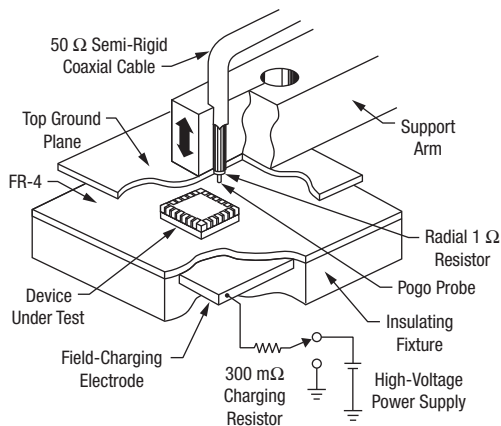

Figure 2. Field Induced CDM Simulator.
Three samples are submitted to CDM test for each voltage level. The device's potential is raised by applying a test voltage to the field charge electrode, see Figure 2 (Field Induced CDM Simulator). Five positive and negative discharges are applied to each pin, allowing enough time between discharges for the device to reach the full test voltage. Test voltages applied start at the 100 V level and are increased by 50 V increments. The device passes a voltage level when all three (3) samples stressed at this level pass. The device is tested for full static and dynamic parameters.